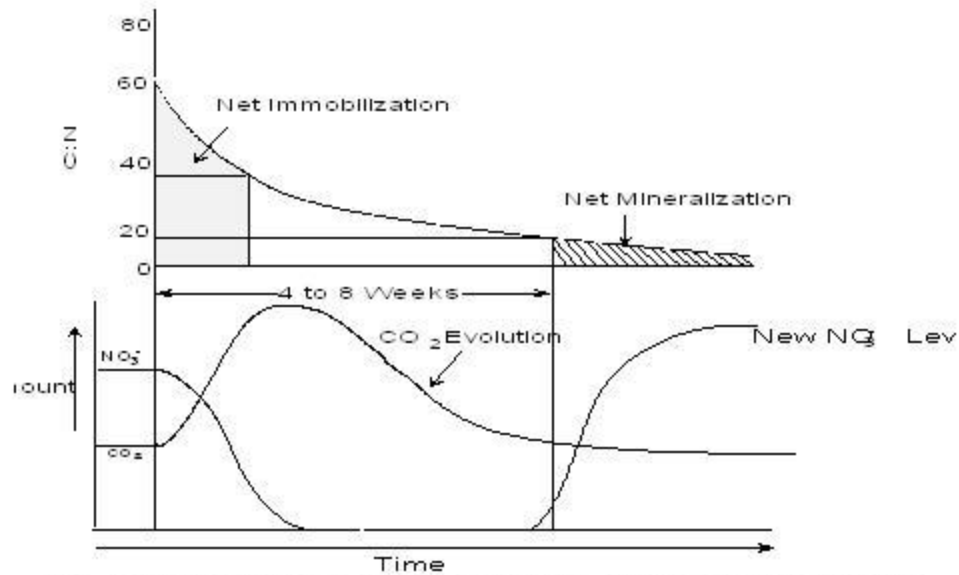

Fig.2. INFLUENCE OF C/N RATIO ON MINERALIZATION AND IMMOBILIZATION IN SOILS
- A close relationship exists between organic matter and nitrogen content of the soil (Fig.2). The ratio of organic carbon to nitrogen in soils is known as Carbon: Nitrogen ratio or C/N ratio of the soils.